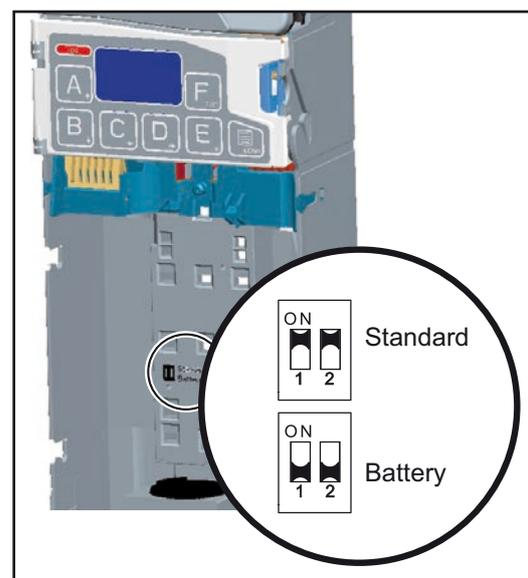

Fig. 5: Switches for mains/battery operation
- 2 For standard mains operation, use a pointed object to push the two DIL switches upward to STANDARD, for battery operation, downward to BATTERY (see Fig. 5 and markings on the coin changer housing).